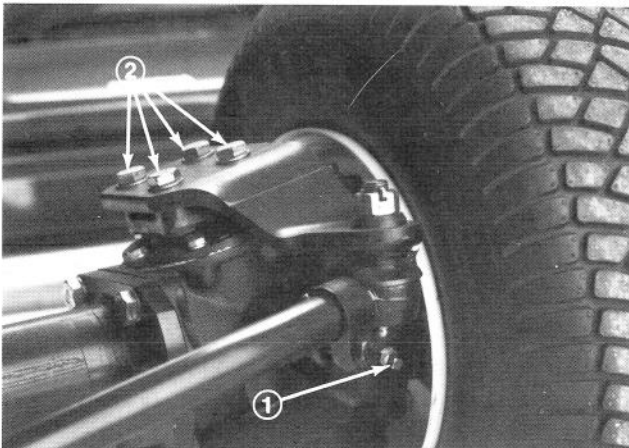

Figure 21
2. Remove a check plug from each end of axle and make sure lubricant is up to bottom of hole. If level is low, remove one of the mounting bolts above each end plug and add enough lubricant to bring the level up to the bottom of the hole (Fig. 21).